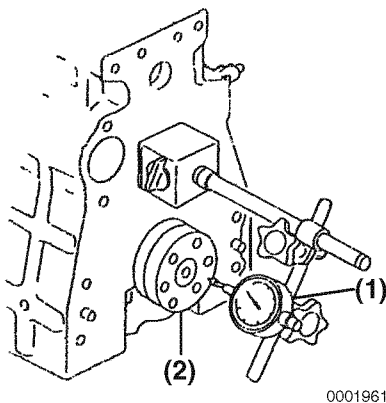

Figure 6-105
- **Method A:** Install a dial gauge (**Figure 6-105, (1)**) on the cylinder block. Move the crankshaft (**Figure 6-105, (2)**) in and out to measure the end play. Record the measurement.